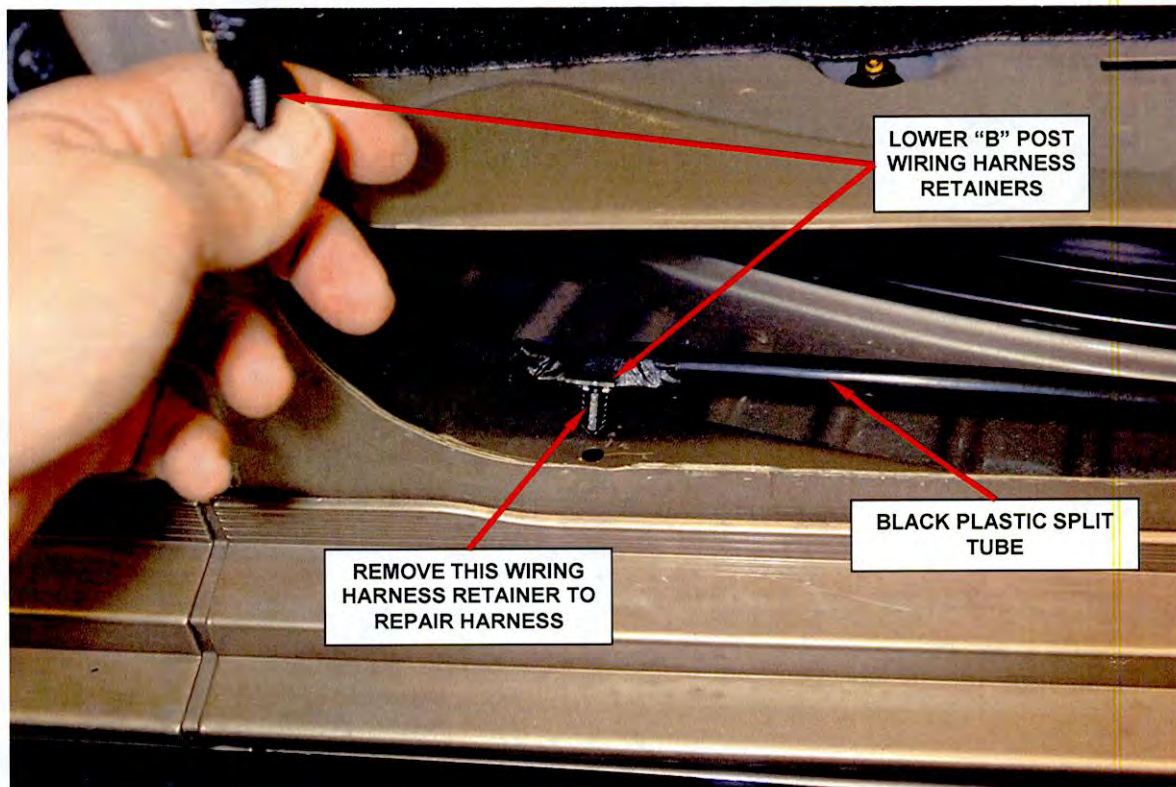

Figure 14 – Power Sliding Door Wiring Harness Retainers
7. Disengage the two lower “B” post wiring harness retainers from the retention holes (Figure 14).
8. Remove the wiring harness retainer from the front of the black plastic split tube of the power sliding door wiring harness, noting its original location (Figure 14).
9. Carefully unwrap the power sliding door wiring harness starting at the front end (in car position) of the black plastic split tube (Figure 14). Unwrap enough of the cloth tape to expose the chaffed wires.
20. Position the wiring harness retainer at the end of the split tube and tape the wiring harness retainer in place with electrical tape (Figure 14).
21. Insert the two lower “B” post wiring harness retainers into the retention holes (Figure 14).